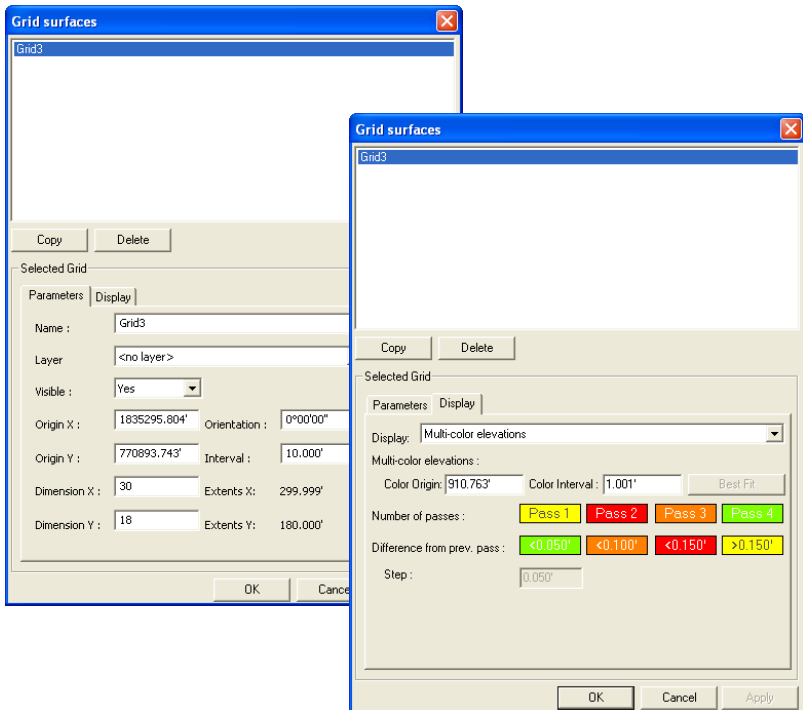

Figure 8-6. Grid Surfaces
To view the 3D Project and 3D Grid grid surfaces, click **Grid ▶ Grid surfaces** or **Grid ▶ Grid properties**. The *Grid surfaces* dialog box displays parameter and display information about the selected grid surface (Figure 8-6 on page 8-7).
1. On the *Grid surfaces* dialog box, select the grid surface to edit (Figure 8-6).